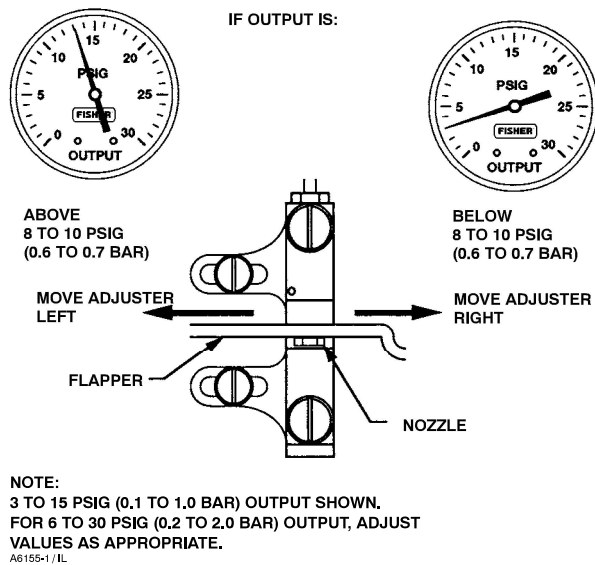

Figure 7. Reverse-Acting Controller Span Adjustment — Proportional-Only Controllers
9. If the output is not between 0.6 and 0.7 bar (8 and 10 psig), adjust the controller span by loosening the two adjusting screws (key 43) and moving the calibration adjuster (key 41) a small distance as indicated in figure 7.